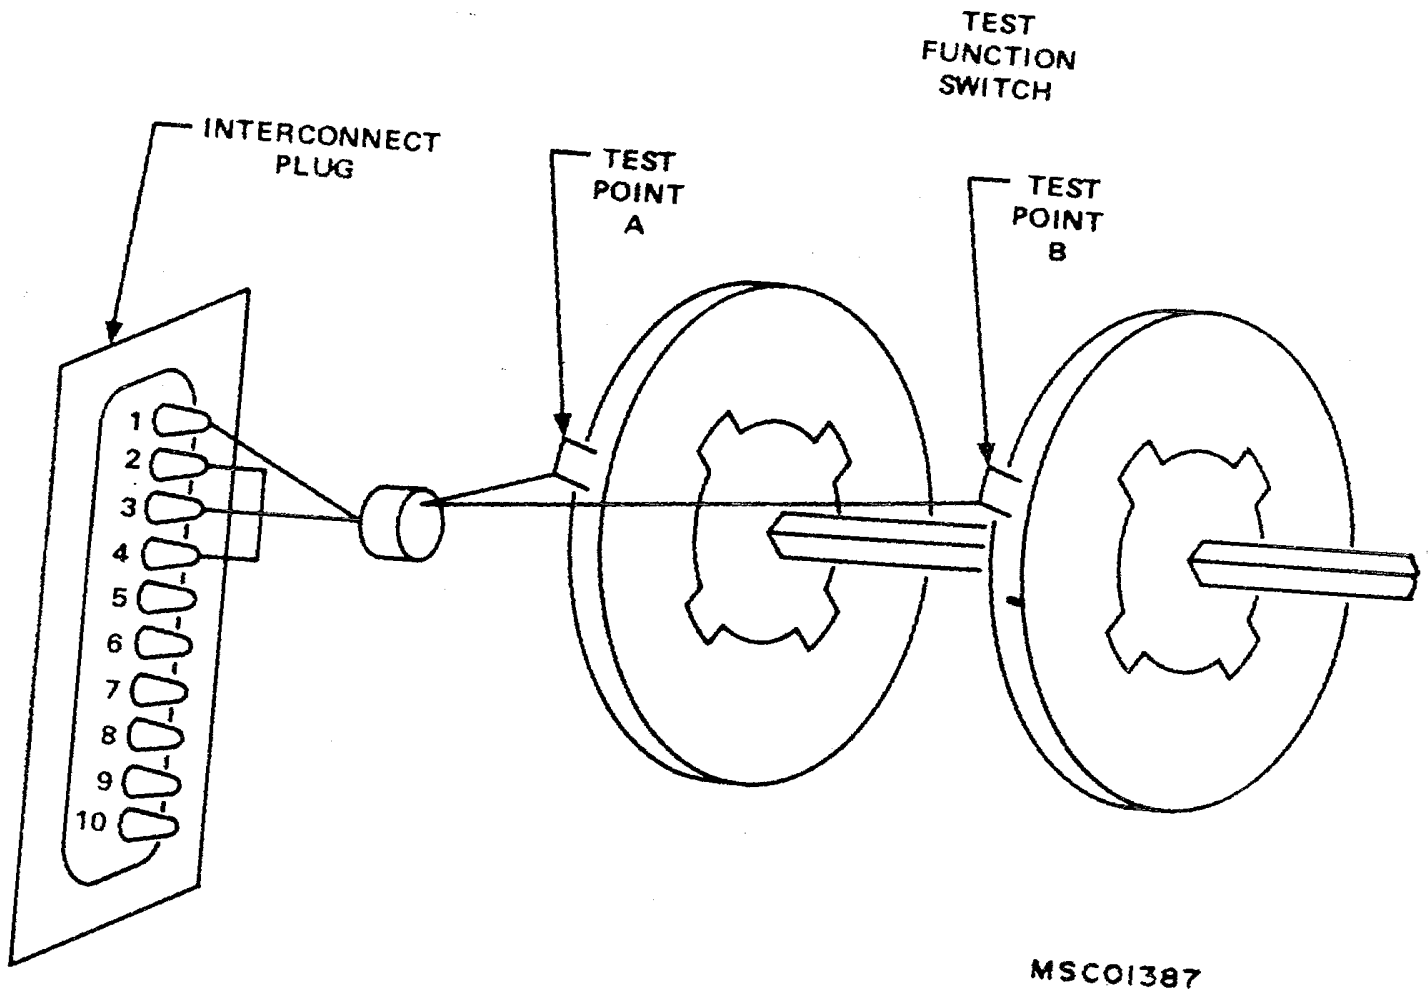

Figure 7. Test function switch
(1) Adjust TI AMPLITUDE control for 4 centimeters of positive pulse display on oscilloscope crt.
(2) Connect test oscilloscope (A7) alternately to TI TEST FUNCTION switch test points A and B (fig. 7), using XI0 probe supplied with test oscilloscope.